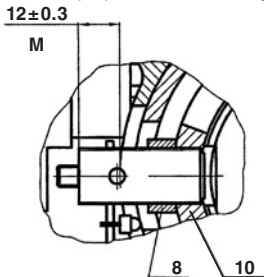

FIGURE C-2
2. Take out the set of insert rings the eyepiece was packed with for safer transportation. The set of insert rings is used instead of Set of Compensation (Cardboard) Rings (2).
3. Screw out Cap (3) using Cap Wrench ST.T.01.001 and draw out Items Spring 4 and Liner 5.
4. Remove Screws (6). Bolt M4 screws into the disposed holes of Screws (6) on the Control Board Cover (7) until it comes apart so you can take it off.
5. Loosen Nut (8) of Subassembly (9) (reticle screw) and release reticle screw from Item (10) of Subassembly (11) (Figure C-2).
2. Insert the Set of Compensation Rings (2) inside the scope body.
3. Follow up the drawing to install the tube holder assembly and back its position up with Thread Ring (12) using Wrench CT.00.03.000.
5. Tighten up the Thread Ring (12) and lock it with primer coat.
6. Centerdrill a hole for Screw (17) in the tube holder (11) for 0.5mm deep and coat it with primer.
8. Install Reticle Screw Assembly (5) into Item (10) of Subassembly (11) (tube holder). Make sure the reticle crosshair is set
vertically strict and the “M” dimension is provided for (Figure C-2). Secure Subassembly (9) with Nut (8). Lock the nut with primer coat.